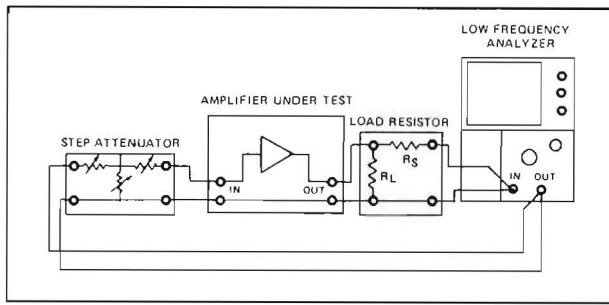

Figure 13 Frequency Response Equipment Setup
1. Select a load resistor matching pad combination for the rated power of the amplifier being tested. Connect the equipment as illustrated in Figure 13.